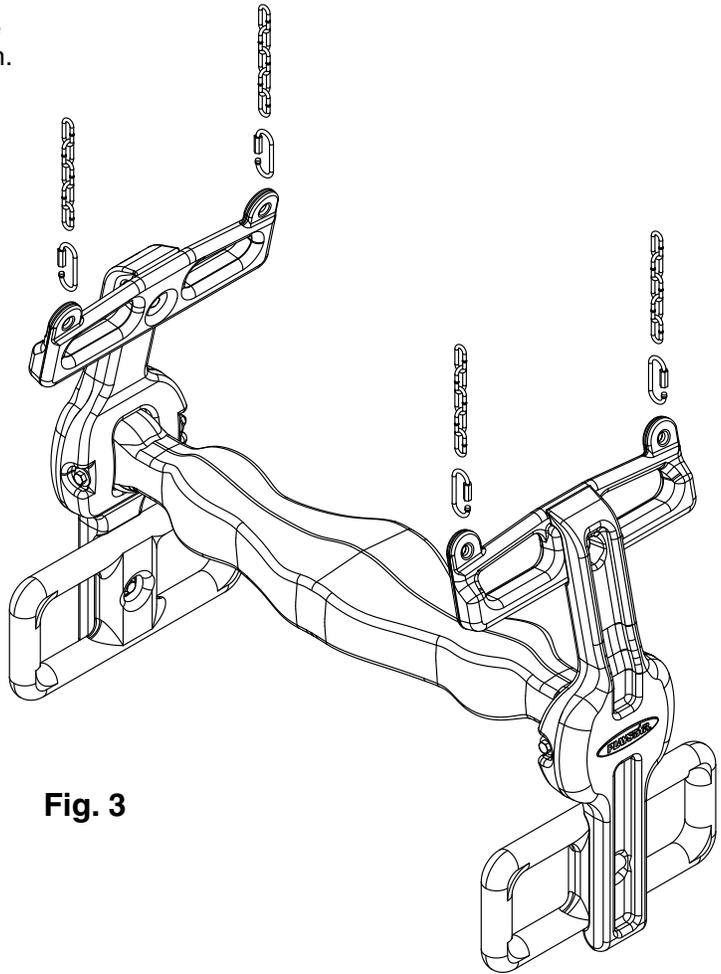

Fig. 3
5. Lift Air Rider into position and hook chains onto the swing hangers **(Fig. 3)**